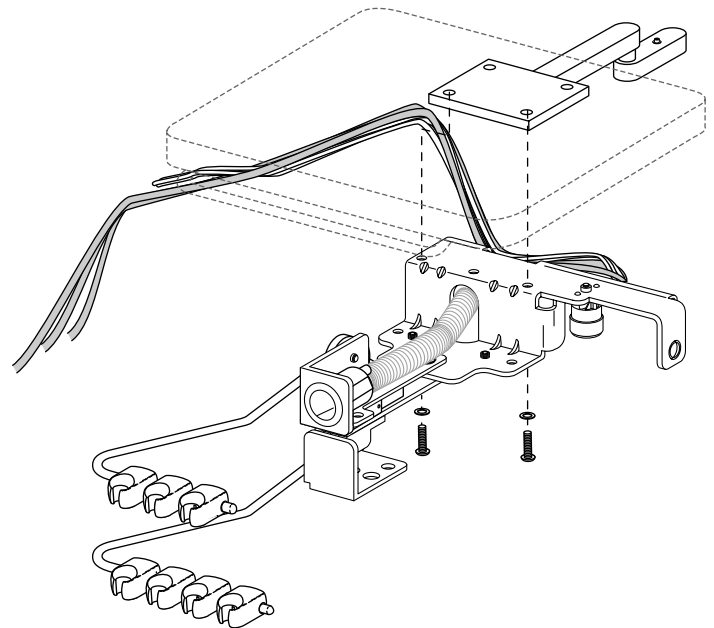

FIGURE 1
2. Using the two screws and washers, install the delivery system assembly to the work surface (see *Figure 1*).